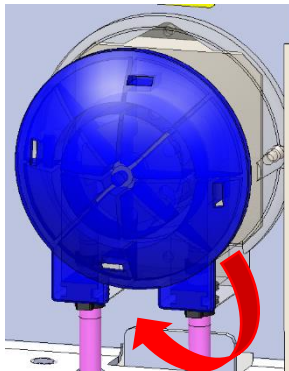

Figure 8
7. Re-install the wash-pump cap back to the pump housing. See Figure 8.